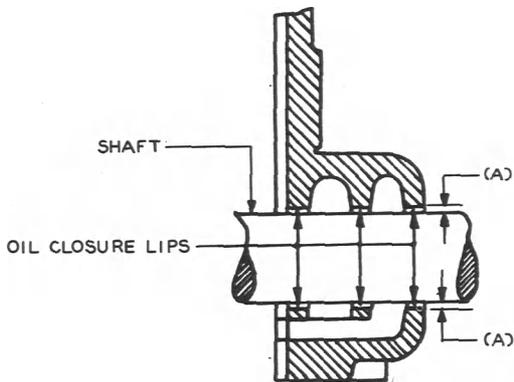

Fig. 6 - Oil Closures in Cover
*2.08 Clearance Between the Shaft and the Oil Closure Lips of Gear Case or Bearing Box Covers: Fig. 6(A) - There shall be a clearance between the shaft and the oil closure lips of gear case and bearing box covers of: